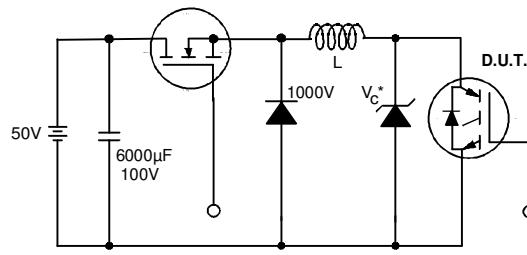

Figure 19. Clamped Inductive Load Test Circuit
- ② $V_{CC}=80\% (V_{CES})$, $V_{GE}=20V$, $L=10\mu H$, $R_G = 50\Omega$ (figure 19)
- ③ Pulse width $\leq 80\mu s$; duty factor $\leq 0.1\%$.
- ④ Pulse width 5.0 μs , single shot.